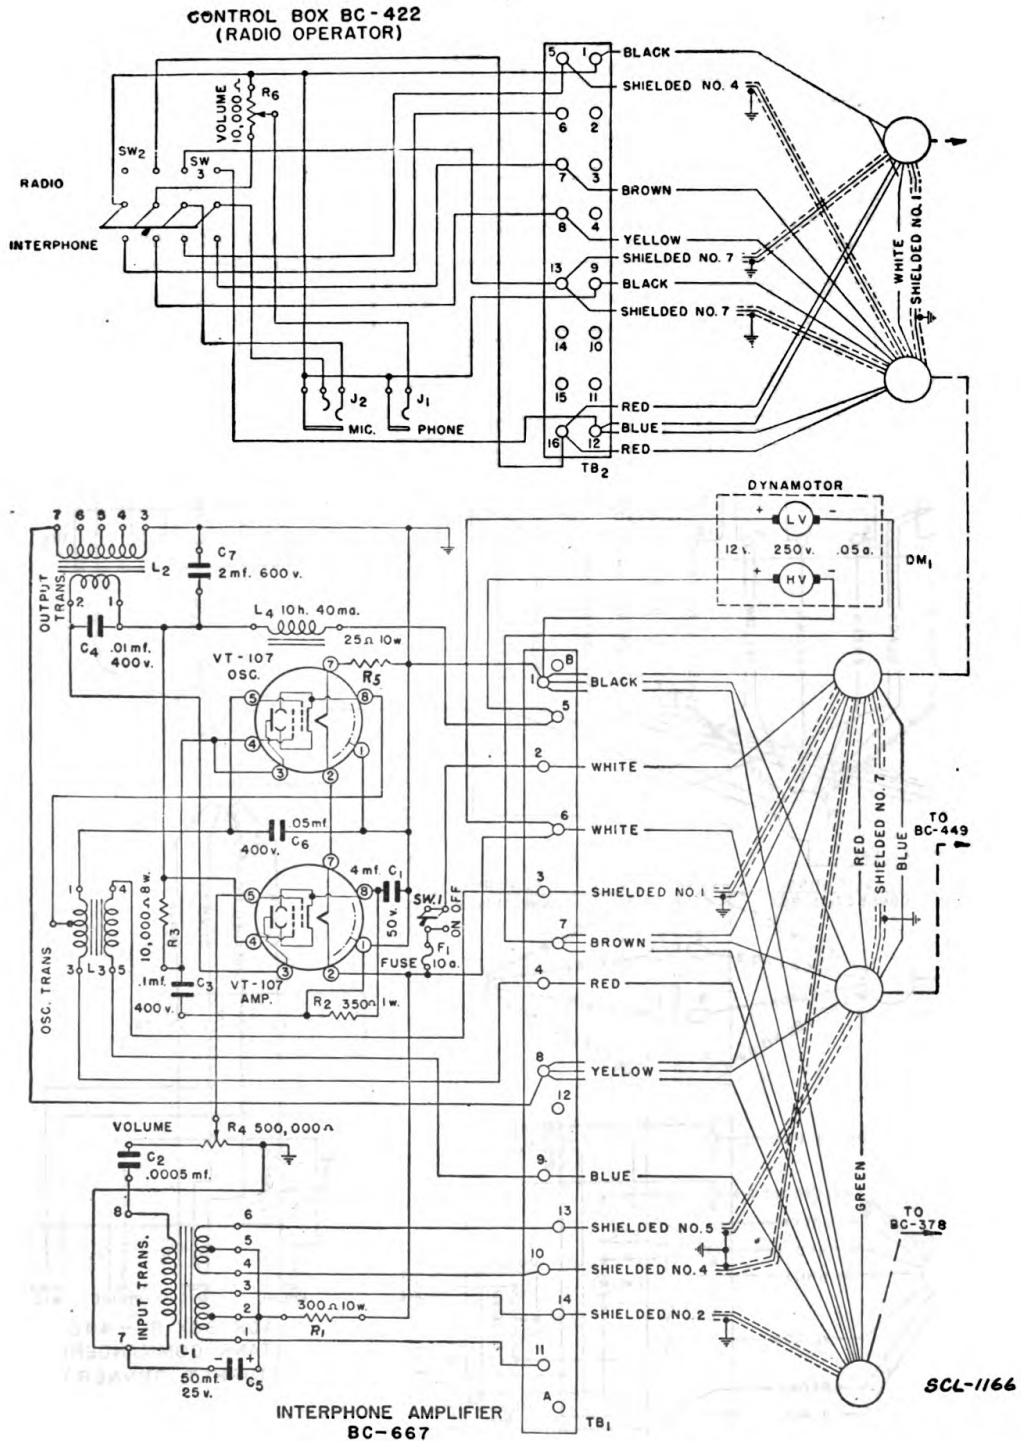

FIGURE 10.—Interphone equipment RC-53-A, wiring diagram.
*e. Conduit and wiring* (fig. 9 for interphone equipment RC-53 or fig. 10 for RC-53-A).—(1) The conduits are secured along the walls and ceiling with clamps, screws, etc., provided. Before securing ring type clamps in place on roof support post, wrap a few turns of rubber tape on post to provide a tight fit.
(2) Remove the slip ring box cover, under the turret, by removing the two wing nuts. The open end of the conduit of control box BC-449 is connected to the lower hole in the slip ring box panel by means of the coupling nut. The four numbered terminal lugs are connected to the correspondingly numbered studs in the box.
(3) Remove the hydraulic pump motor and the turret junction box cover in the turret by removing the necessary bolts and screws. Insert a steel wire snake through the end of the solid conduit in the turret junction box. Pull the four wires at the open end of conduit of jack box BC-448 through solid conduit by means of steel wire snake. Resolder lugs as follows: yellow to 1, brown to 2, black to 3, and shield to 4, and connect to correspondingly numbered studs in turret junction box. Terminate the shield of the shielded lead in an eyelet inside the solid conduit and run an insulated ground lead from the shield to ground. Couple the braided conduit to the solid conduit by means of the coupling nut.
(4) Connect the conduit from control box BC-422 to the upper left knock-out hole of the car terminal box by means of the coupling nut. Connect the seven wires with terminal lugs to the correspondingly numbered studs of terminal block TM-183.
(5) When radio set SCR-508-( ), SCR-528-( ), or SCR-538-( ) is used, connect cord CO-279 between radio set and car terminal box. Insert punch-terminal end through front right hole in radio mounting base and connect other end through upper right knock-out hole by means of box connector. Connect terminal lugs to correspondingly numbered studs and clamp the cable in the radio mounting base (al-